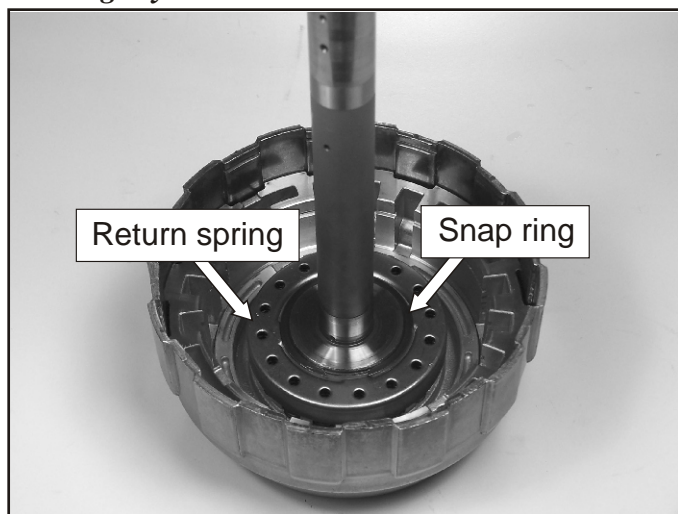

Figure 206
- 150. Install the return spring and snap ring as shown in Figure 206.